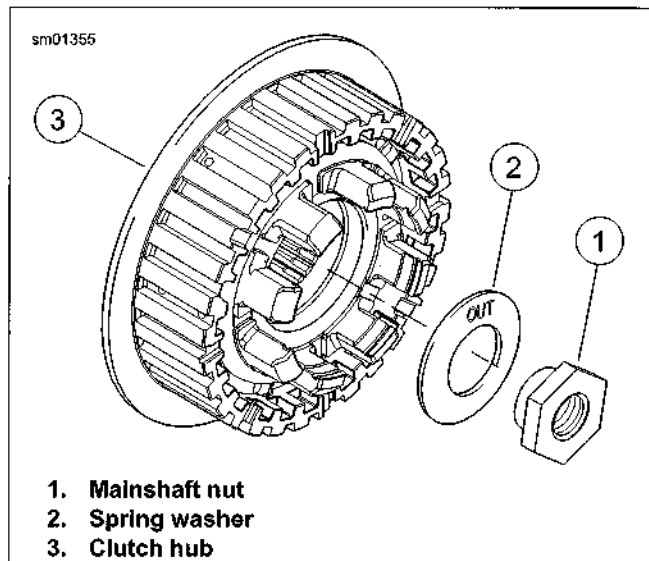

Figure 5-16. Mainshaft Nut and Washer
See Figure 5-16. Washer (2) must be installed with the word "out" facing the transmission mainshaft nut (1). Incorrect assembly can result in clutch and/or transmission failure.
7. See Figure 5-16. Apply two or three drops of LOCTITE 262 HIGH STRENGTH THREADLOCKER AND SEALANT (red) onto threads of transmission mainshaft. Install spring washer (2) and mainshaft nut (1) (left-hand threads) on transmission mainshaft. Tighten nut to 50-60 ft-lbs (67.8-81.3 Nm).